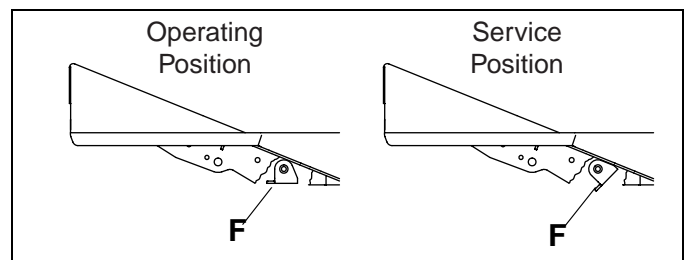

Figure 4C
1. Rotate anti-sway mechanism **(F)**, located under left side floor panel, to Service position. Figure 4C
4. Rotate anti-sway mechanism **(F)** to it's operating position. Figure 4C